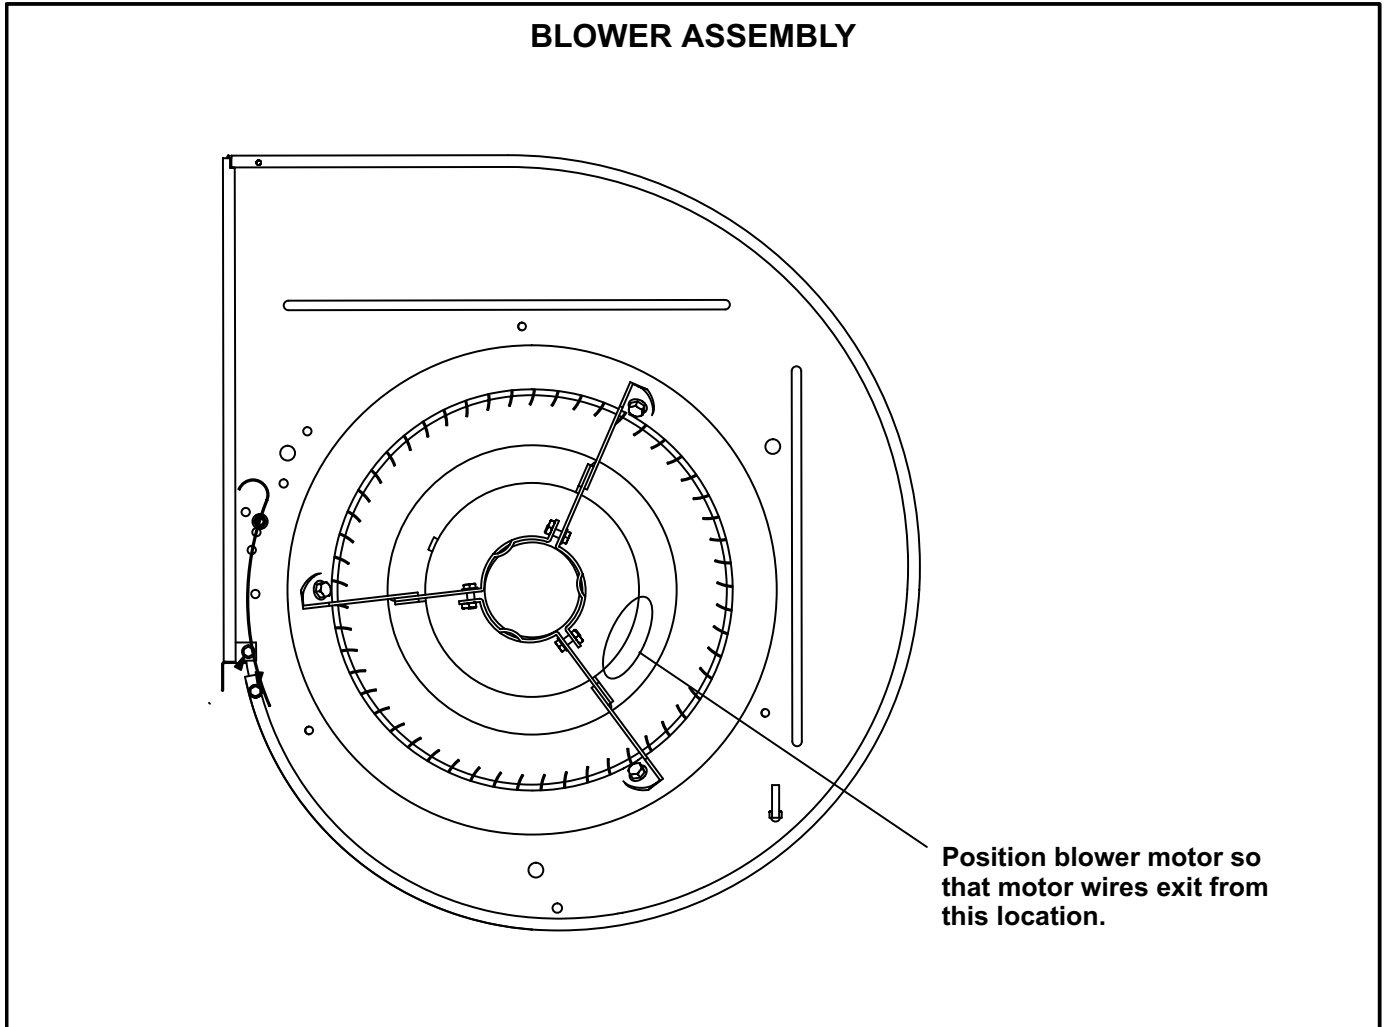

FIGURE 1
- 11 - Position the replacement motor on the blower assembly. The blower motor must be properly centered in the scroll before continuing. See figure 1 for proper motor orientation.